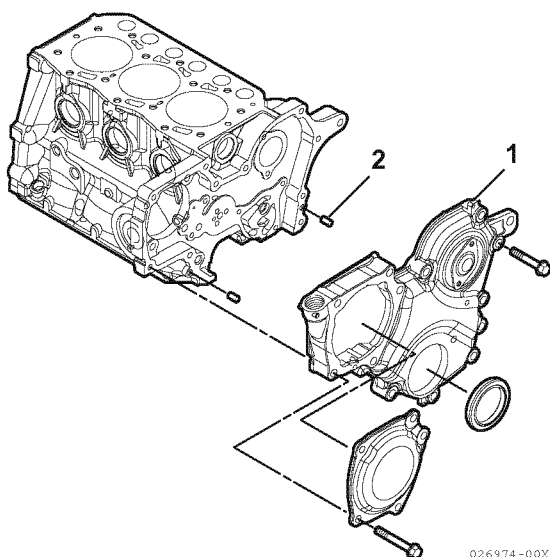

Figure 6-99
1. Apply a continuous bead of ThreeBond Liquid Gasket No. 1212, Yanmar Part No. 977770-01212, to the mounting area of the gear case cover (**Figure 6-99, (1)**). Be sure to circle the bolt holes.
2. Install the dowels (**Figure 6-99, (2)**).